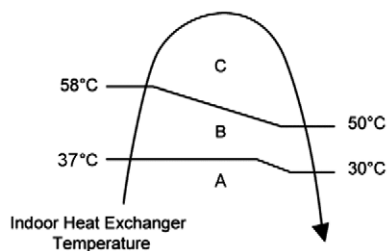

Figure 1
- Automatic vertical airflow direction can be set using remote control; the vane swings up and down within the angles as stated above. For heating mode operation, the angle of the vane depends on the indoor heat exchanger temperature as Figure 1 below. It does not swing during fan motor stop. When the air conditioner is stopped using remote control, the vane will shift to close position.
- Automatic horizontal airflow direction can be set using remote control; the vane swings left and right within the angles as stated below. It does not swing during fan motor stop. For heating mode operation, the angle of the vane depends on the indoor heat exchanger temperature as Figure 1 below.